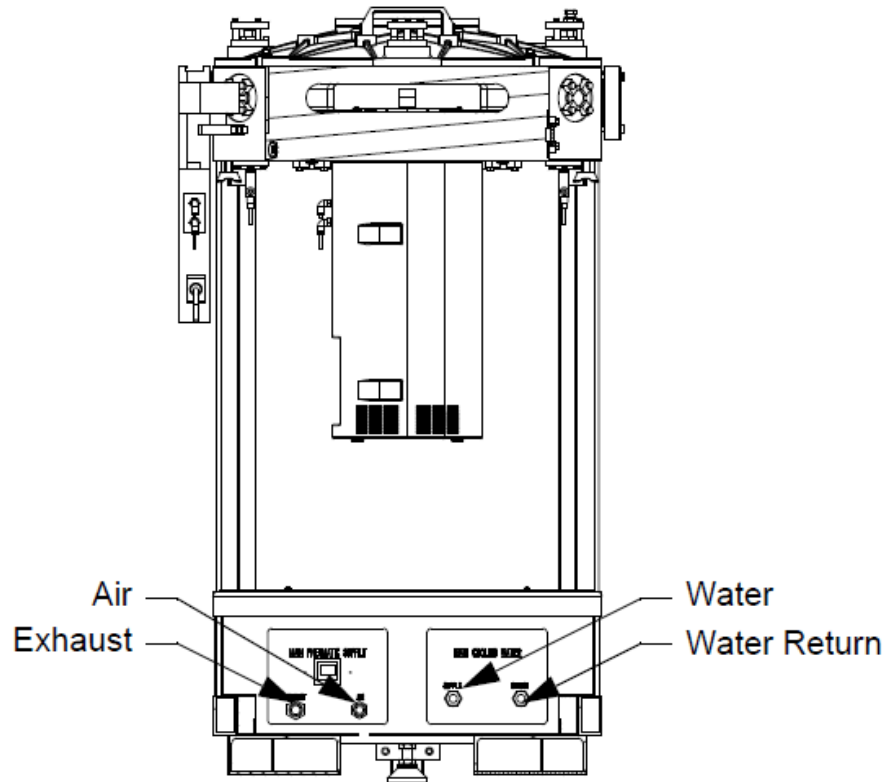

Figure 3-5: Pneumatic and Water Connections
1.	Run a 1/2 inch O.D. Teflon line from the facility water supply to the WATER connection on the Marathon Express 400 system's Facilities Interface Panel as shown in Figure 3-5 .
2.	Run a 1/2 inch O.D. Teflon line from the facility water drain to the RETURN connection on the Marathon Express 400 system's Facilities Interface Panel as shown in Figure 3-5 .